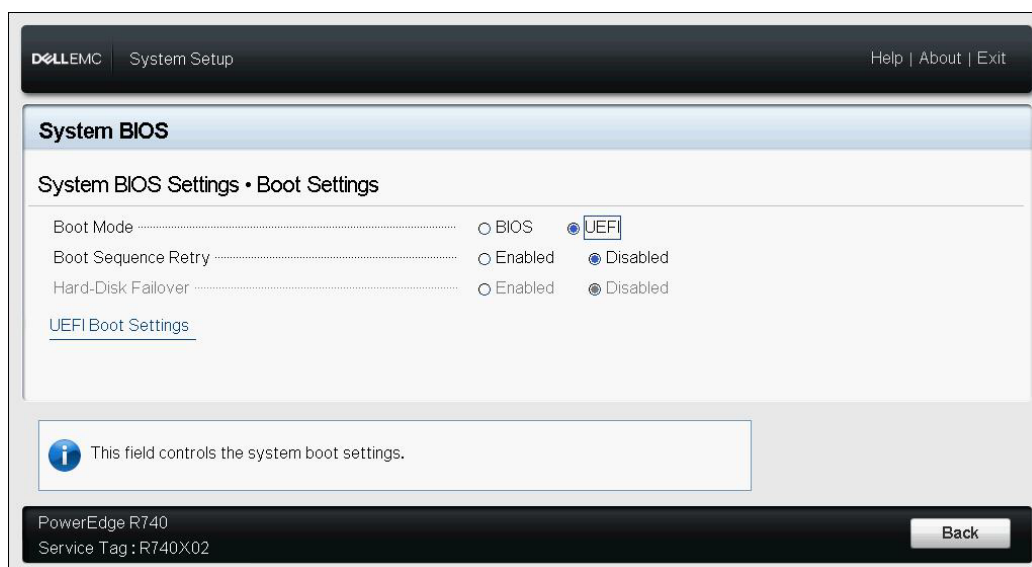

Figure 9-2. System Setup: Boot Settings
2. Access the System Utilities menu (Figure 9-2).